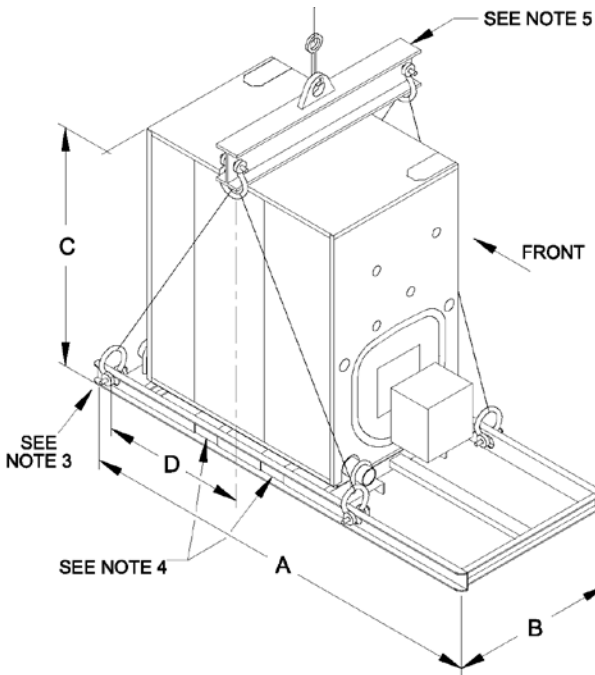

Figure 25: Shipping Information
1. The packaged boiler comes on it's own shipping skid (see Figure 25) and the assembled block is hydrostatically tested at the factory. Once the boiler is in it's final position, perform another hydrostatic test at 1½ times the working pressure of the boiler. Before boiler is put into service, all draw up rod nuts should be loosened and then retighten to finger tight plus 1/2 turn. The shipping skid can be used as a housekeeping pad unless local codes say otherwise. All controls are pre-wired down to the burner. If burner is equipped with a lead lag panel, lead lag controls will be shipped loose for header mounting. The power can be supplied to the burner if equipped